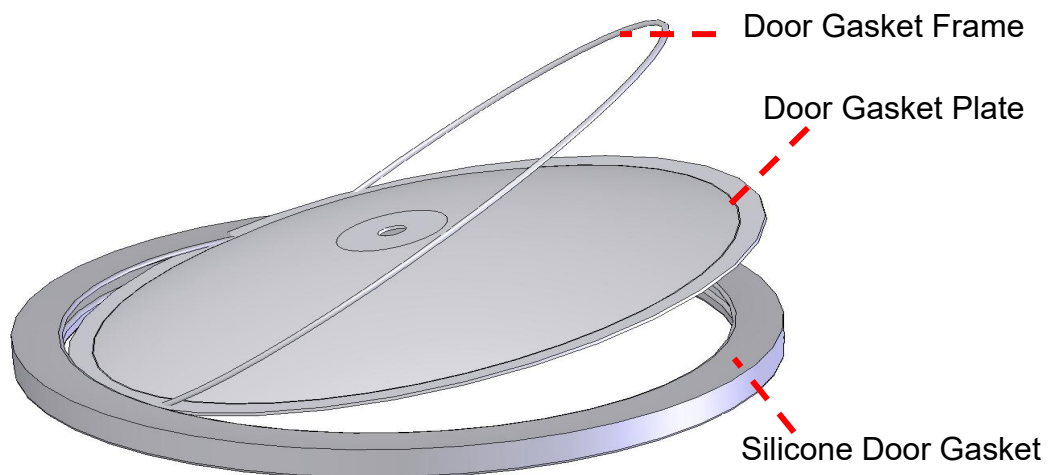

Figure 180
1. Remove the gasket assembly from the door groove, and then take out the door gasket frame, door gasket plate from the old gasket. Install the door gasket frame, door gasket plate to the new gasket as shown in Figure 180 °